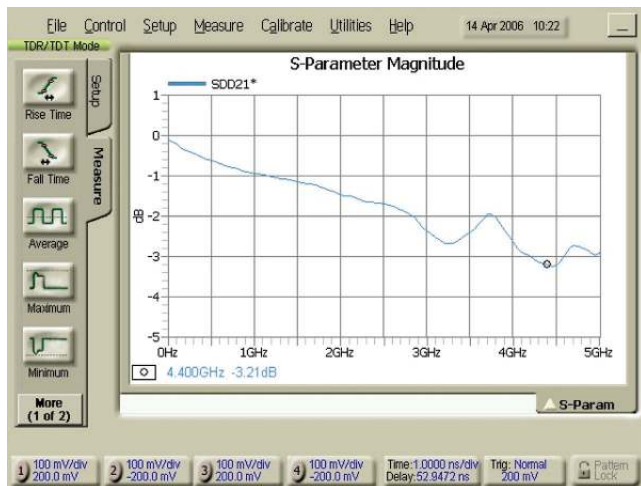

Figure 11. Insertion Loss
- 2 Adjust the time base to display frequencies up to 5 or 10 GHz. Using a marker, find and record the maximum Insertion Loss between 10 MHz and 4500 MHz. See Figure 11.